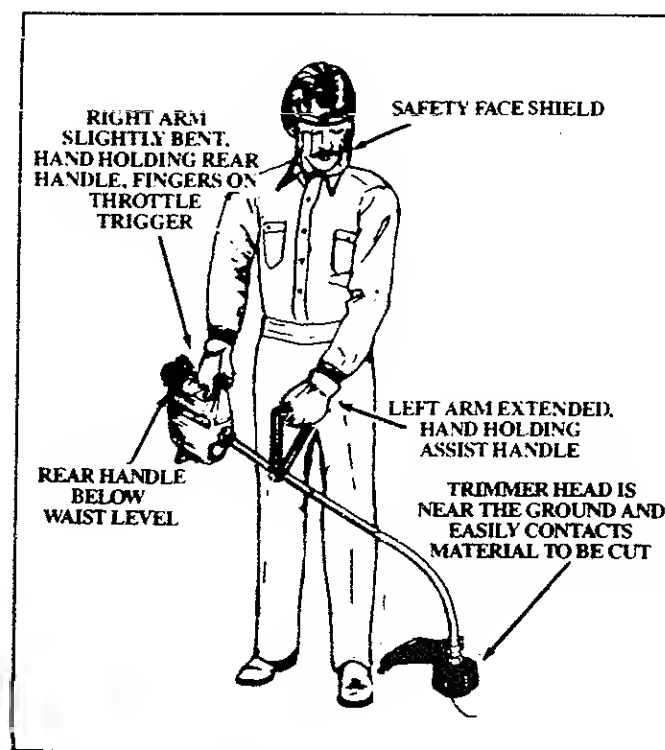

Figure 6
5. OPERATING POSITION ~ Figure 6
- Before starting the Engine, stand as shown in Figure 6 and check for the following: